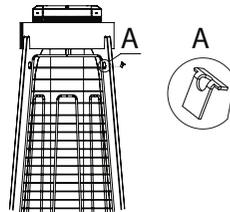

Fig.14b - Install grille lock
b) Install the grille retainer into the groove in the upper profile (Figure 14b):